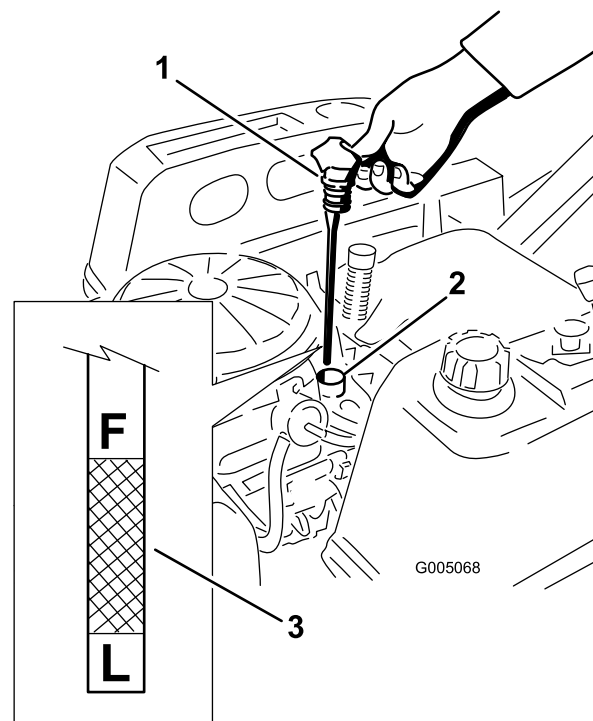
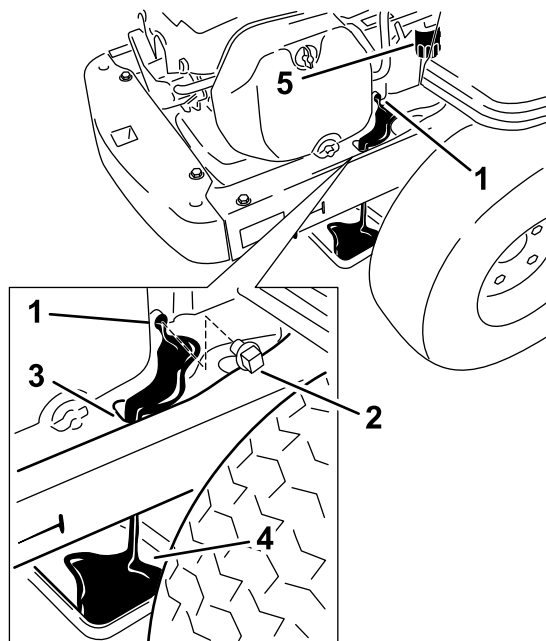

Figure 24
Figure 25
5. Remove the dipstick and check the oil level. (Figure 24).
4. Pull and remove the oil fill cap/dipstick; wipe oil off. Reinsert the dipstick and push firmly into place (Figure 24).
5. Clean the area around the drain plug and on the machine frame. Place a pan underneath machine directly below the drain hole in the frame as shown in Figure 25.
6. Remove the oil drain plug (Figure 25). Remove the oil fill cap/dipstick (Figure 24).
8. Remove the old filter and wipe off the mounting pad (Figure 25).
9. When oil has drained completely, install the oil drain plug. Tighten the plug to 14 N-m (125 in-lb) torque. Wipe up any excess oil on the frame (Figure 25).
13. Slowly pour approximately 80% of the specified oil into the filler tube (Figure 24).
14. Install the oil fill cap/dipstick and push firmly into place (Figure 24).
15. Check the oil level (Figure 24); refer to Checking the Oil Level.
17. Install the oil fill cap/dipstick and push firmly into place (Figure 24).